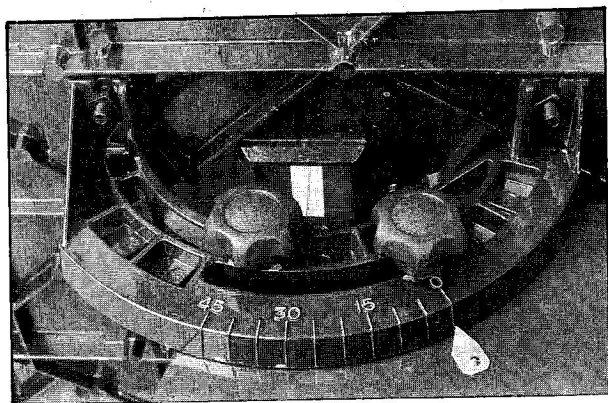

FIGURE 4
4. Position table to where it is 90° to the blade then tighten knobs as shown in Figure 4.